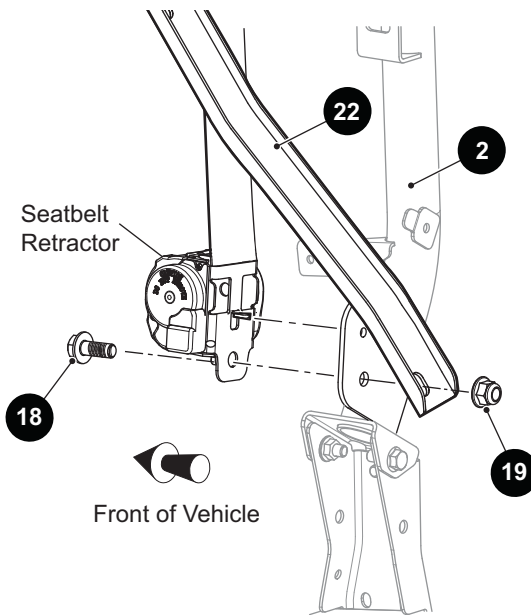
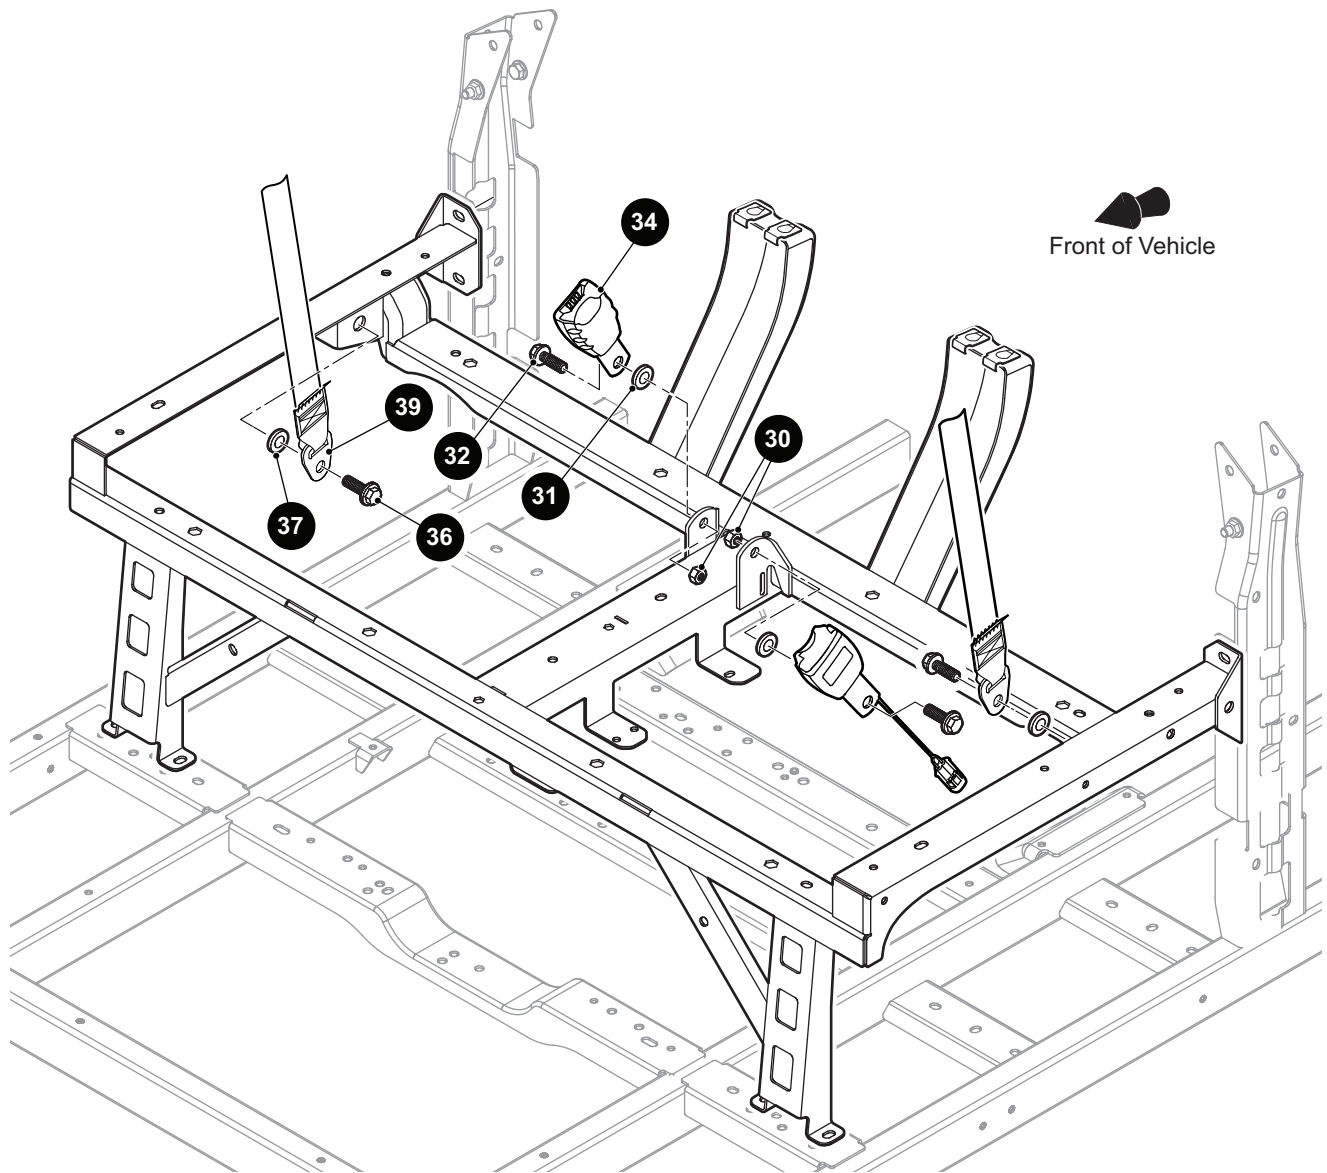

Fig. 9 Seat Belt Retractor
Fig. 10 Lower Seat Belt
- Once the wiring has been inserted into the extended cab ROPS tube, align the mounting bracket holes of the extended cab cross-tube (7) to the corresponding mounting bracket of the extended cab ROPS tube (4). Secure with bolts (8) and lock nuts (9). Finger tighten bolts to allow for adjustment.
- Secure the top of supports (22) to brackets on cross bar (21) with bolts (25) and nuts (27). Finger tighten bolts to allow for adjustment. Do not secure bottom of support until the seat belt retractor is installed (Ref. Fig. 9).
2. Align mounting hole of support (22) with the hole in the ROPS tube (2). Attach the seatbelt retractor to the bracket at the bottom of the ROPS tube (2) (Ref. Fig. 9).
4. Secure the seatbelt retractor to the bracket by inserting the bolt (18) through the mounting hole in the retractor and through the ROPS tube (2) and support (22). Secure the bolt with lock nut (19).
5. Secure the seat belt anchors (39) to the seat frame with bolts (36), washers (37) and nuts (38) (Ref. Fig. 10).
6. Secure the seat belt latches (34) to the center of the seat frame with bolts (32) and nuts (30).